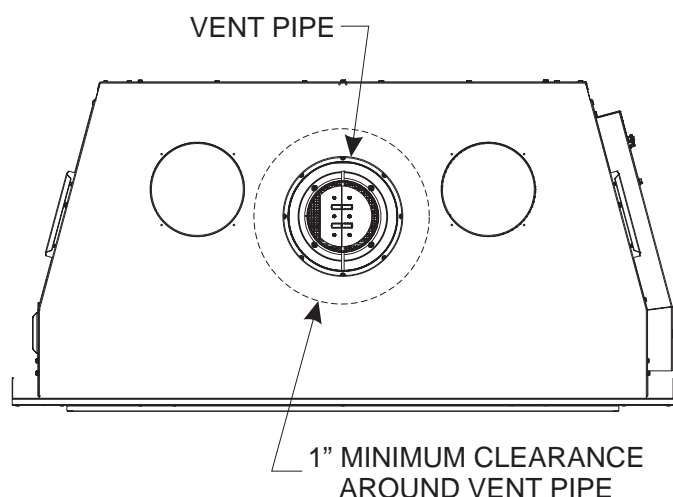

Figure 35
**NOTICE:** Maintain 1 of inch of clearance to combustibles around vertical vent pipe. **See Figure 35.** For horizontal vent systems, maintain a minimum 1 inch of clearance from the bottom and sides of the vent to combustibles and a 3 inches of clearance above the vent pipe to combustibles. **See Figures 35 and 36.**